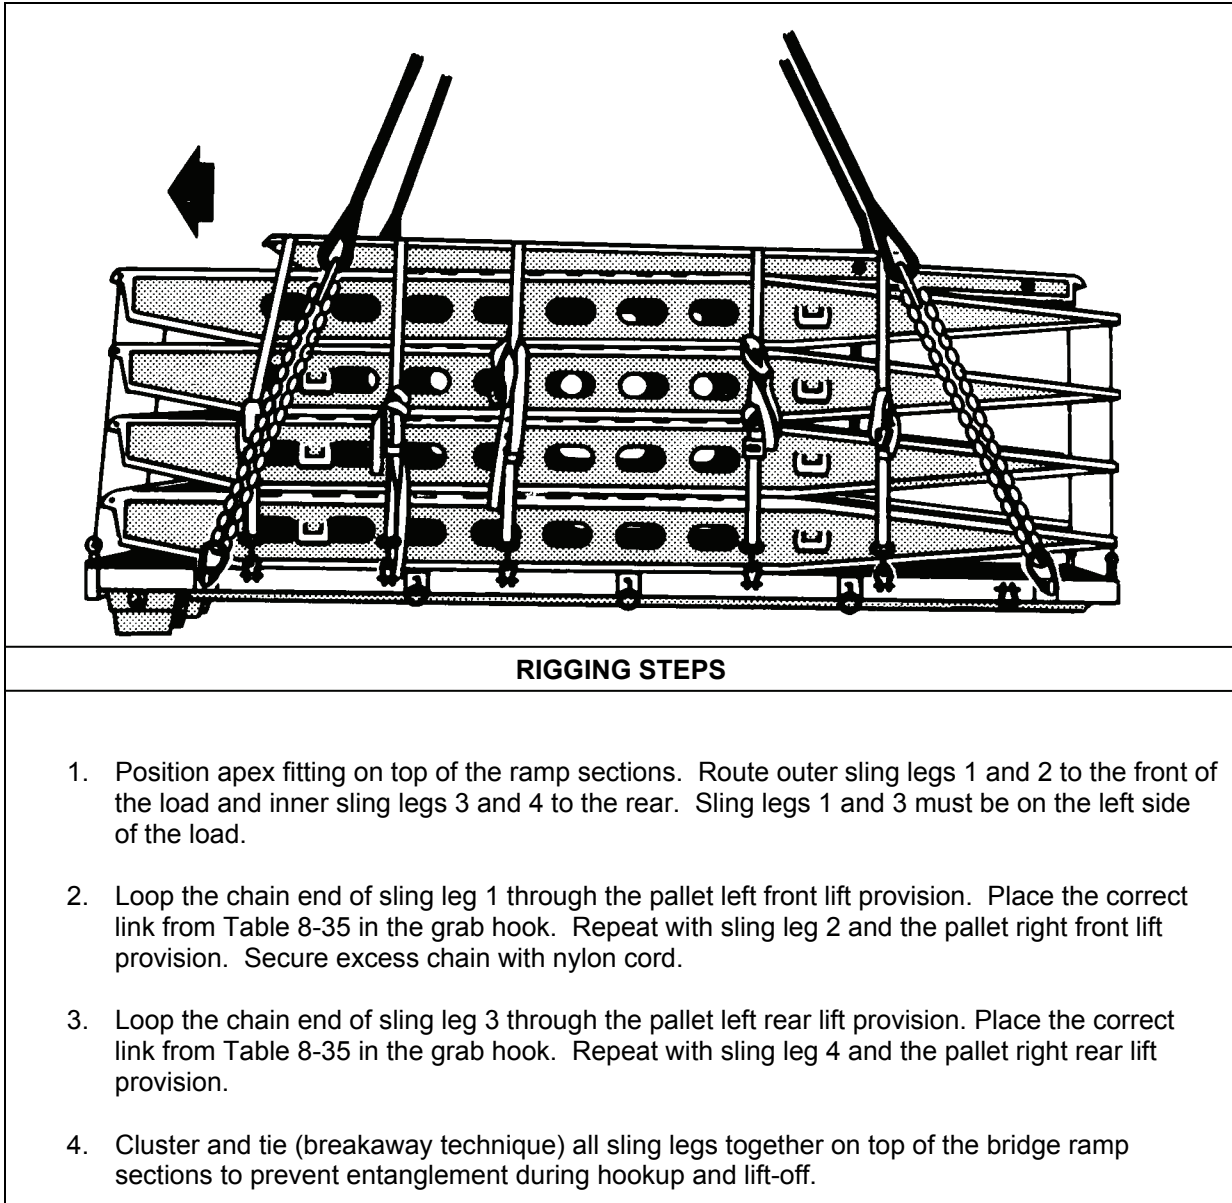

Figure 8-35. Medium Girder Bridge
- **Rigging.** Rig the load according to the steps in Figure 8-35.